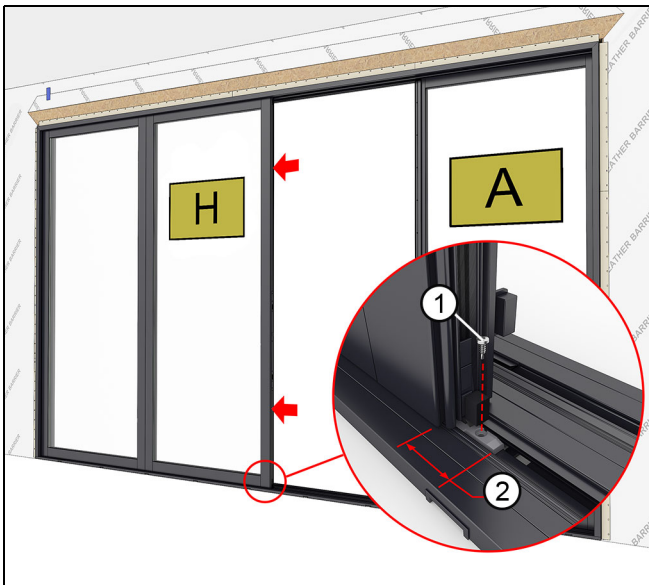

Figure 120 OOOX shown
9. Snap the lower stationary bracket onto sill, then slide underneath the stationary panel until fully seated. The bracket should stick out approximately 2 1/4" (57) from panel when fully seated. Fasten with a #8 x 1/2" self drilling screw. See Figure 120.